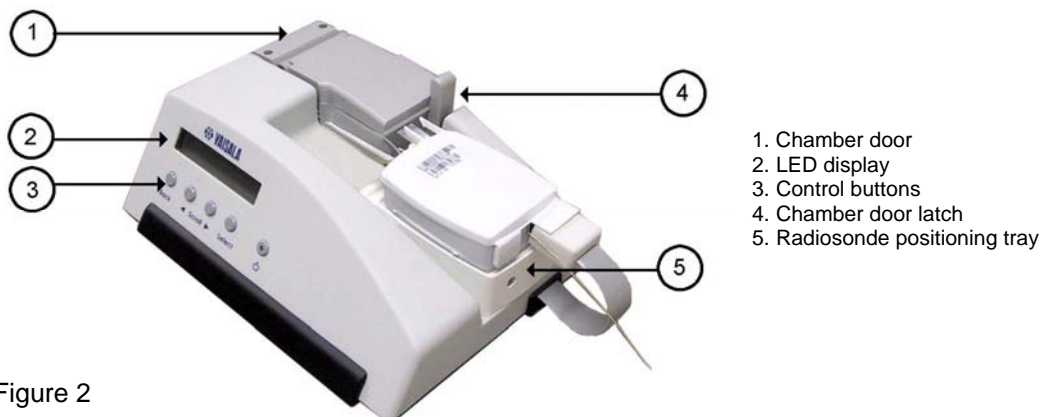

Figure 2
- 3) Open the GC25 Ground Check Set chamber door by releasing the latch (see Figure 2).
- 4) Carefully place the RS92 with its barcode label up as shown in Figure 2, making sure it fits in the indentation on the positioning tray. Close the chamber door.
- Enter the temperature shown on the GC25 unit LED display window (see Figure 2) in the blank temperature box in the “Ground check” window.